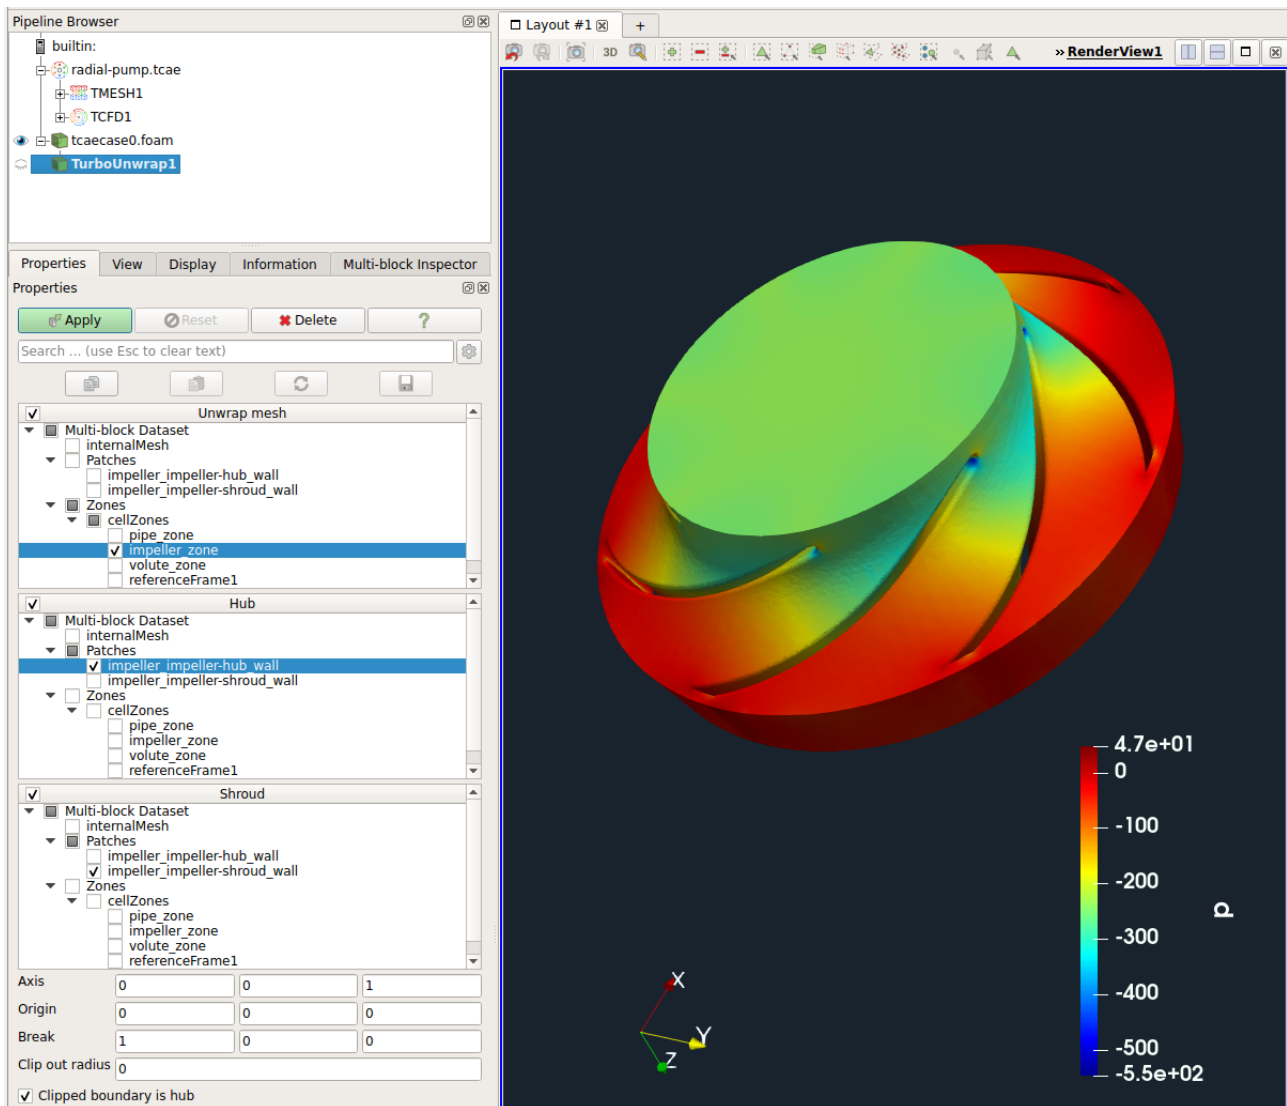

Figure 16.13: Turbo Blade Post – Basic parameters of the filter Turbo Unwrap.
Step 3 — The basic properties of the filter **Turbo Unwrap** are shown in the Fig. 16.13. When the advanced options are hidden, there are only a few options to define. First of all, it is necessary to choose the internal mesh, that will be transformed, and the hub and shroud patches, which will serve as a leaders to define the transformation. After the transformation is done, hub and shroud will be perfectly flat and parallel to each other, conformly deforming the mesh in between. If multiple mesh parts are selected in the "Unwrap mesh" window or multiple patches are selected in "Hub" or "Shroud" windows then they will be internally merged into a single entity before proceeding. In this example the mesh is well prepared and we can just select the three items that we loaded in the first step.
Step 5 — Select the position of the breaking semiplane and cutting cylinder, see Fig. 16.14. In this case we have chosen the plane direction along the x -axis and the radius of the cylinder equal to $0.01m$, see Fig. 16.13.